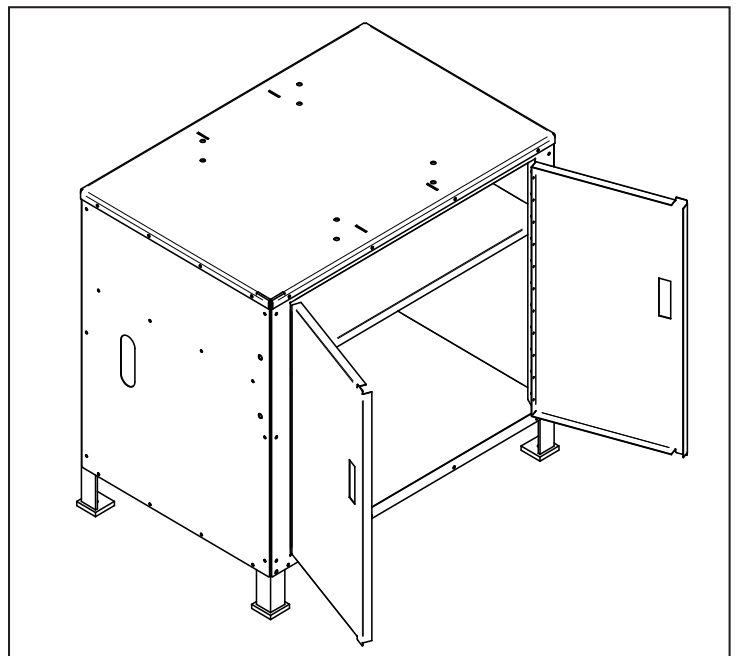

Figure 6
- Using 16 10-32 x 3/8" Phillips Screws, attach Top Panel to assembly (see **Figure 6**).